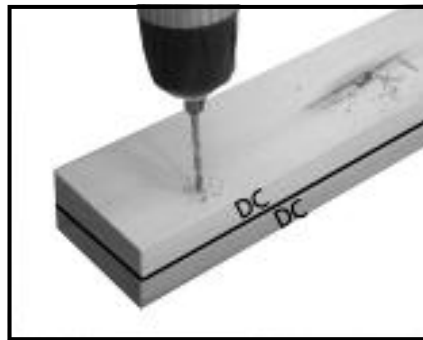

Fig B4
9. Place the other **DC** part underneath and drill through both pieces with a 3mm drill (fig B4)